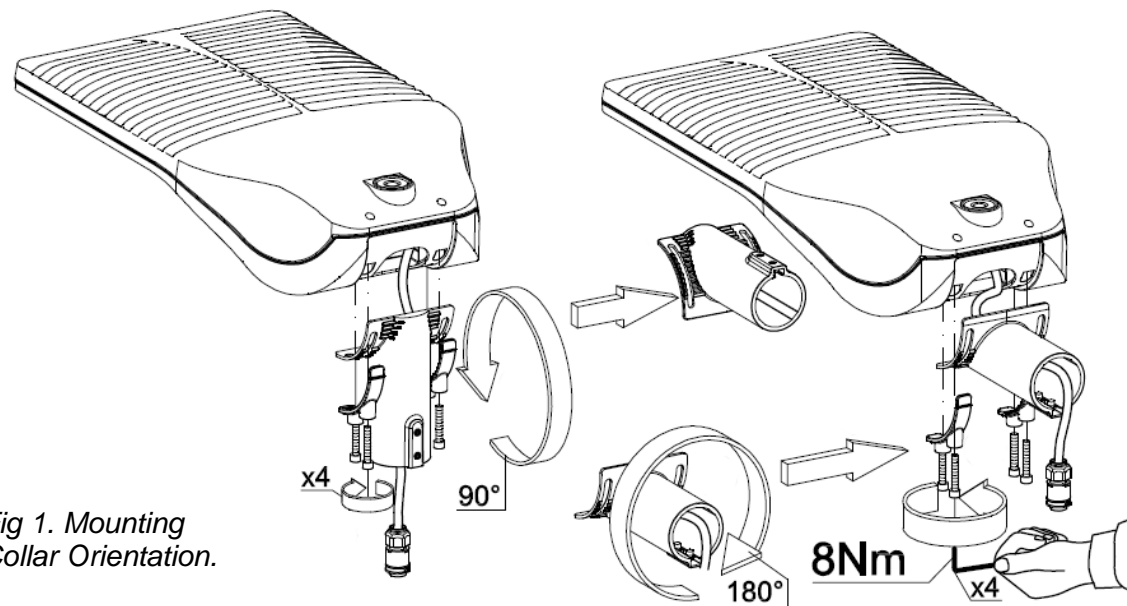

Fig 1. Mounting Collar Orientation.
2. Prepare the body for installation in the correct orientation – on a vertical post or horizontal bracket. Remove and re-fit the mounting socket if necessary. (fig 1) If additional electrical feeds are required for Dali control, fit the supplied gland into the body mounting socket at this stage. (fig 2)